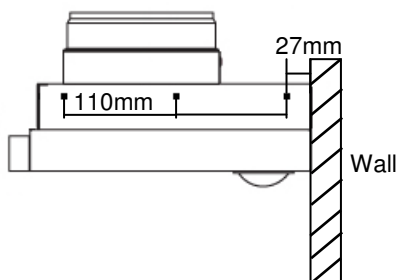

Figure 5: Screw locations for cupboard mounting
10. There are also holes that allow the hood to be secured to the inside of cupboard walls. Use these mounting holes as well to secure the hood to the cupboard (Fig.5).